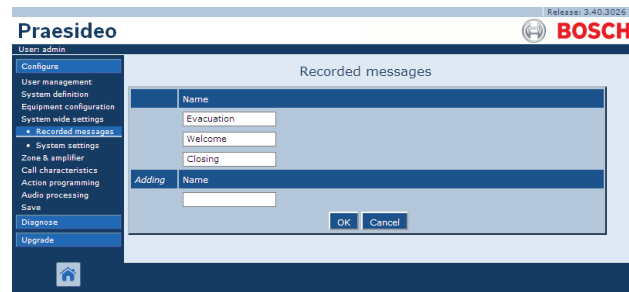

figure 44.3: Register message, step 2
- 2 Click the *Add* button to add a recorded message. A screen similar to the one in figure 44.3 appears in the main frame of the web interface.